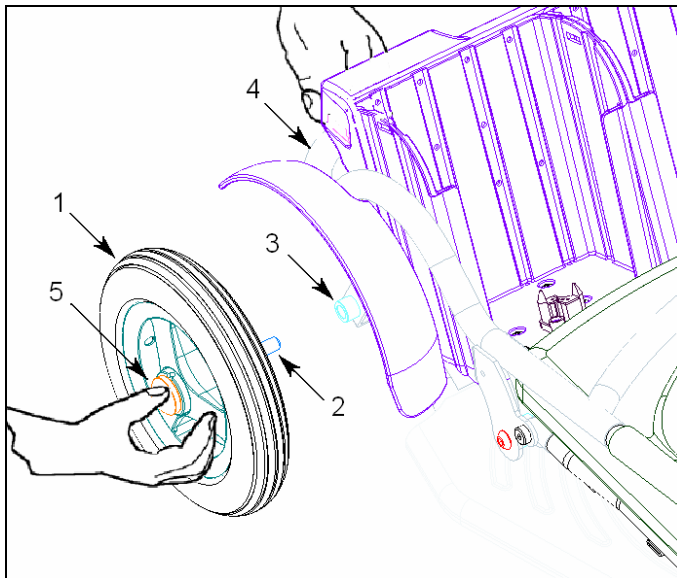

Figure 2
(See **figure 2**) The rear wheel (1) is assembled by means of a so called quick release axle (2) into the wheel mount (3) of the frame (4). In order to be able to assemble and disassemble the quick release axle you need to press the button underneath the rubber cover (5) in the centre of the wheel.
Take the rear wheel in your hand as shown in **figure 2**. Grip the wheel (1) with your fingers through the spokes and depress the button under the rubber cover (5) at the centre of the wheel with your thumb. Lift the frame (4) using your other hand and fully insert the quick release axle (2) into the Wheel mount (3) of the frame, release the button.